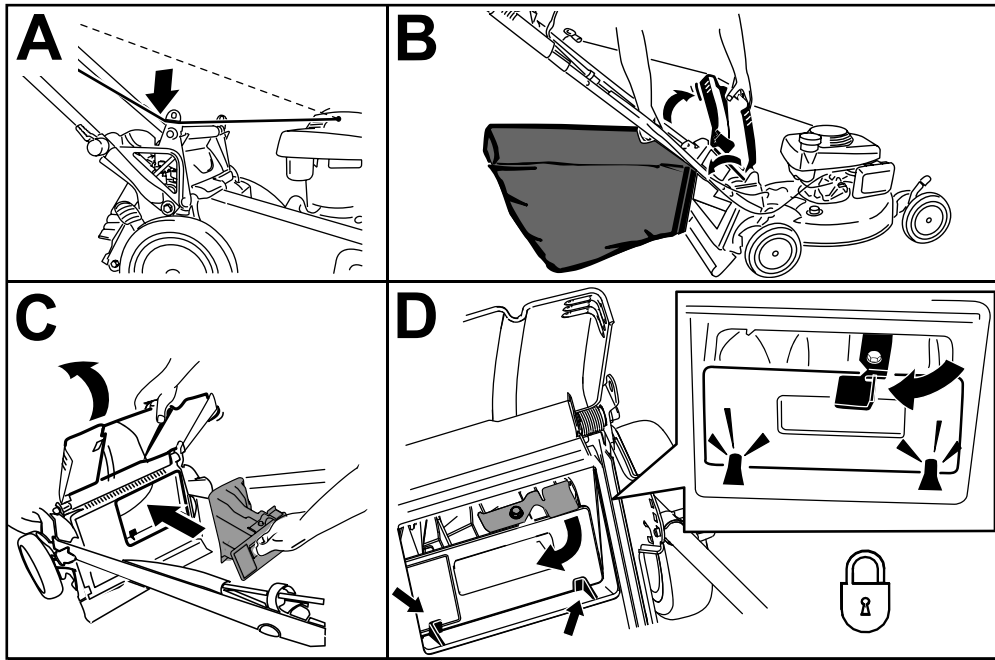

Figure 24
1. Route the starter rope around the lower-rope guide (A of Figure 24).
2. Raise and hold up the rear deflector and lift the grass bag up by the handle off the notches of the handle brackets (B of Figure 24).
3. Install the rear plug (C of Figure 24).
**Important:** Ensure that the rear plug is locked in place. To lock the plug, firmly push the plug in until it snaps into place behind the tabs, and rotate the lever on the plug to the left (D of Figure 24).